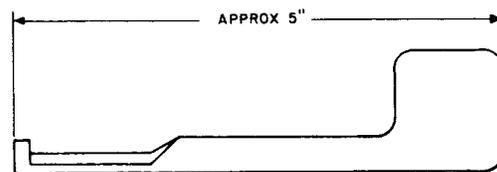

Fig. 18—TP-72003 Adjuster Tool
2.20 TP-72003: The TP-72003 tool (Fig. 18) is a spring adjuster used on the 12AH receiving distributors.